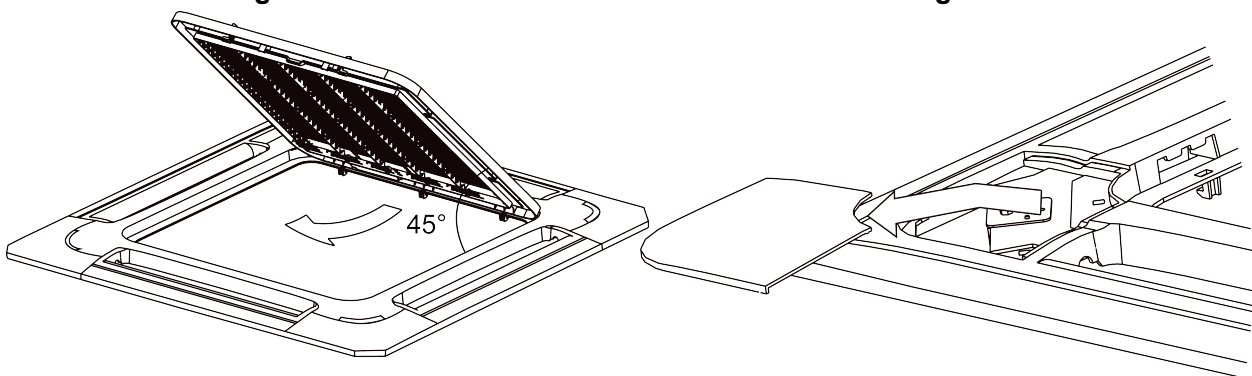

fig. 12.10
- b. Draw the grid up to an angle of about 45°, and remove it. (refer to fig. 12.10)
**(2) Remove the installation covers at the four corners.**
Wrench off the bolts, loose the rope of the installation covers, and remove them. (refer to fig. 12.10)